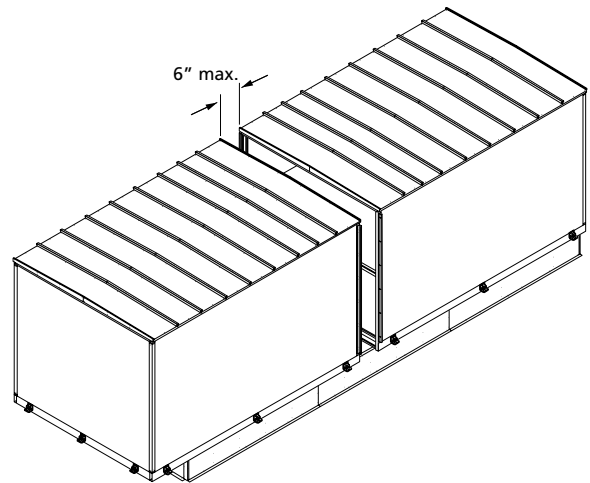
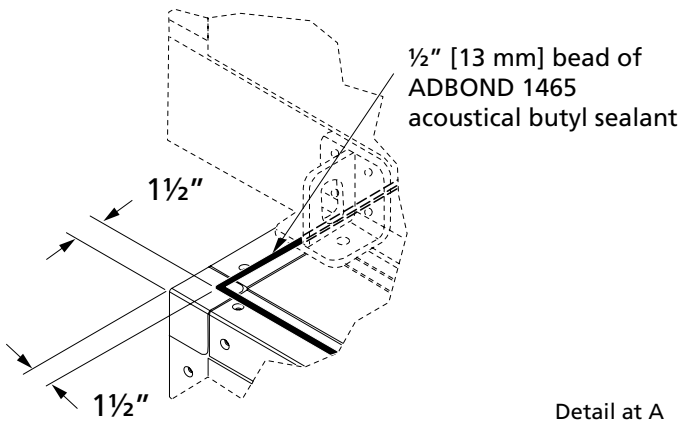
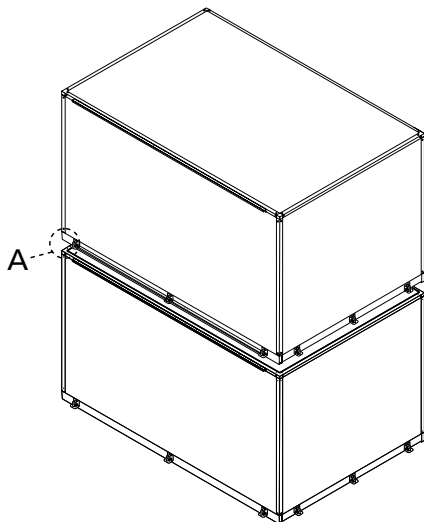
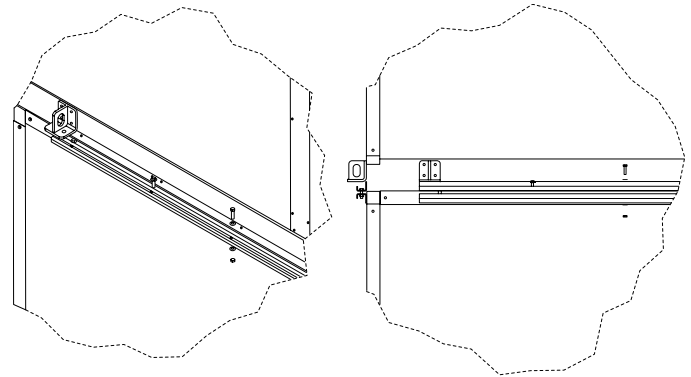

Figure 2: Set the next section approximately 6" [152 mm] from the first section.
Figure 4a: Apply a 1/2" bead of Adcoustik butyl sealer atop of the condenser/compressor section prior to placing the fan/blower section above it.
Figure 4b: Gently lower the fan/blower section atop of the compressor/condenser section.
Figure 4c: Secure the top and bottom sections together with bolts, nuts and washers. Do not over tighten.
2. Set the second section approximately 6" [152 mm] from the first section (see Figure 2). Remove the yellow lifting lugs located on the section joints (if any) from the second section to allow sections to be pulled together.
5. For modular integrated water cooled units, the compressor/condenser section should first be mated to the coil section as outlined in Figure 2 prior to mounting the fan section. The internal water and refrigerant piping must then be completed in the field by the Installing Contractor. Once the field piping is complete a bead of Adcoustik butyl sealer should be applied to the top of the condenser/compressor section as illustrated in Figure 4a. The fan/blower assembly should then be gently lowered on top of the compressor/condenser section as shown in Figure 4b. Finally the top and bottom sections should be joined together with bolts, nuts and washers as per Figure 4c. After reassembly, the unit will require pump down (evacuation) and refrigerant charging. Factory shall provide dry nitrogen "holding" charge only. Refrigerant, additional copper piping and insulation for field connections shall be supplied by others. Filter drier shall be shipped loose for field installation.